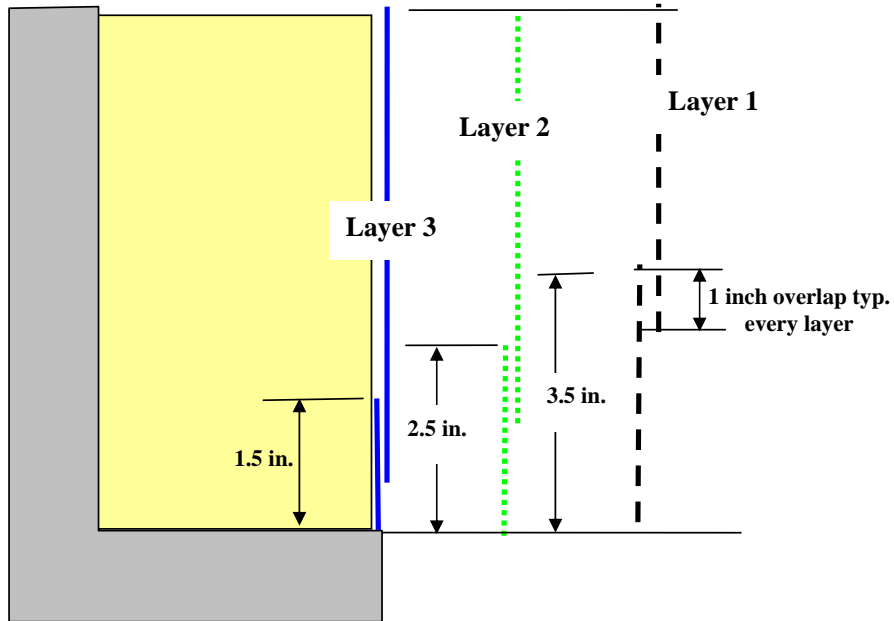

Figure 19- Groundwrap Overlap Scheme
- 6.30.1 Complete the outer groundwrap insulation on both coil bundles A & B. Overlap the individual layers of Groundwrap and secure in position with adhesive back Kapton tape. Remove the minimum number of clamps needed to complete a section of the ground wrap. [Figure 19- Groundwrap Overlap Scheme]